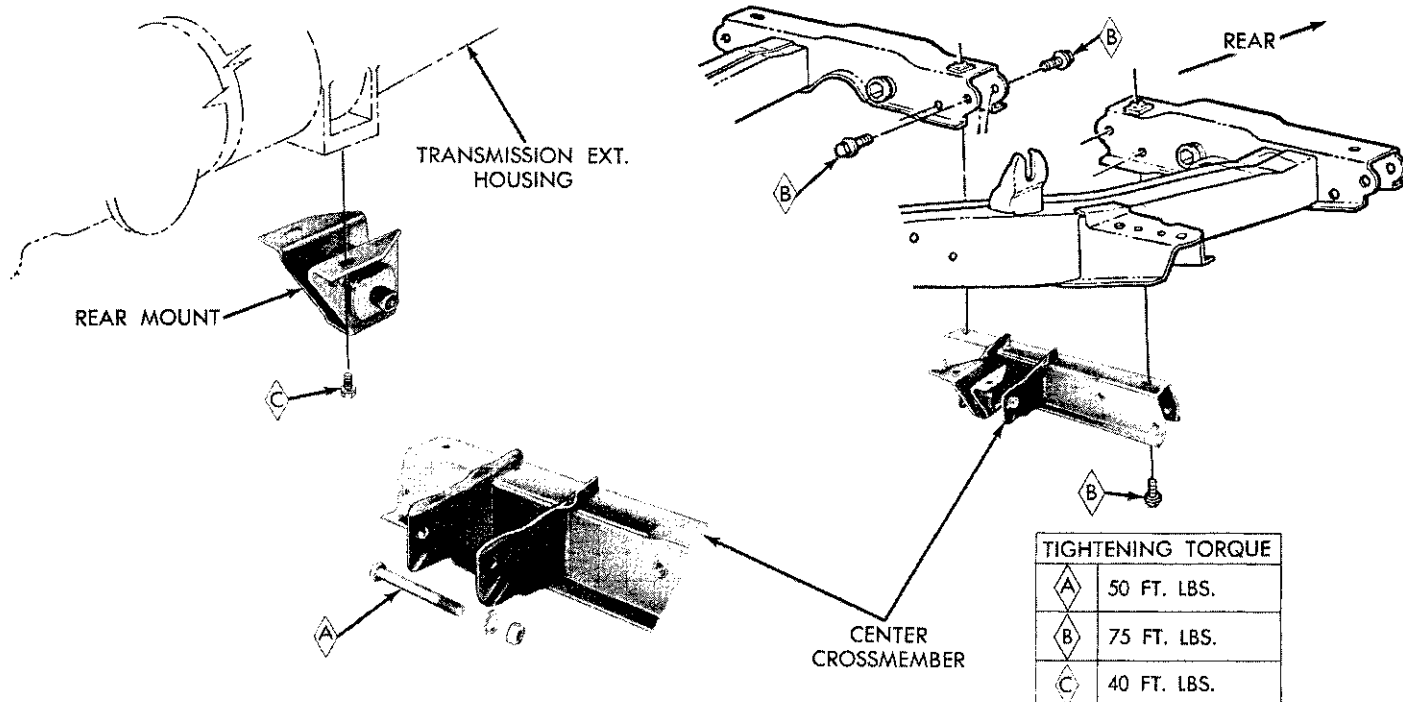

Fig. 80—Center Crossmember and Rear Engine Mount
(12) Lower transmission so extension housing is aligned and rests on rear mount. Install bolts and tighten to 40 foot-pounds (Fig. 80). Engine mount to center crossmember bolt and nut, loose assembled to this point, should now be torqued to 50 foot-pounds.
(13) Install gearshift torque shaft and connect gearshift rod to the transmission lever.